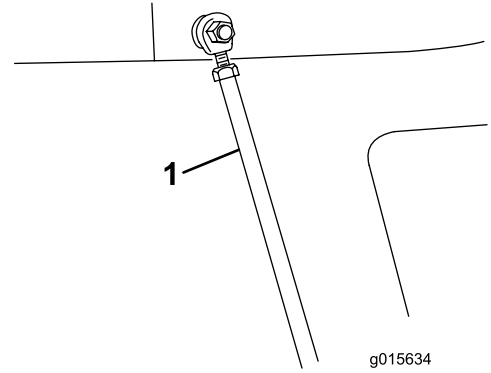

Figure 21
4. Secure the hopper tie rods to the frame with hair pin cotters (Figure 21).